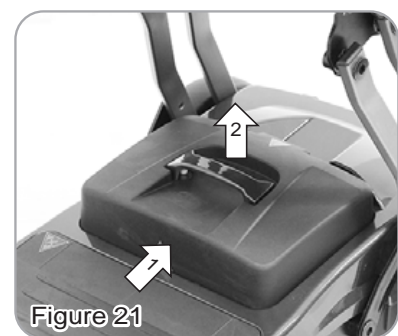

Figure 21
- 1.Loosen the screws (I) by wrench and hex key.
- 2.Press the springs (J) to remove from the seat slide bracket.
- 3.Pull down and hold the seat springs to release the seat latch (K).
- 4.Push the seat bracket (L) by thumbs towards the back of scooters to release the seat from latch.
- ※ When putting the seat back, insert the seat back to seat slide bracket. Push the seat towards to the front of scooter (green point), fasten the screws (Fig.21) and insert the springs back to seat slide bracket (J).
- Each battery box contains one lithium battery or (2) lead-acid batteries (optional).
- The battery box is designed for a better stability. Please follow the instruction to disassemble the battery box (Figure 21). Push the battery backwards (1.) and pull it upwards (2.).